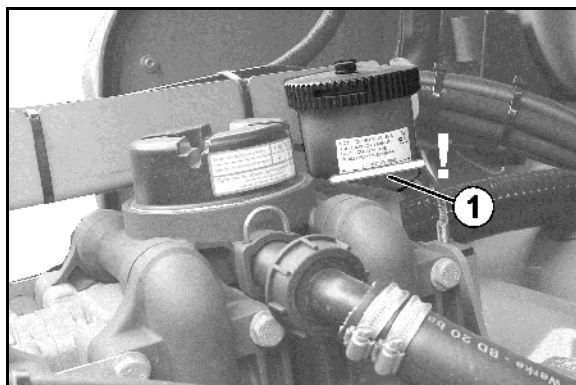

Fig. 196
2. Blow out the evaporator (Fig. 196/2) and warm water radiator (Fig. 196/3) with compressed air (maximum 5 bar).
3. Renew damaged seals (Fig. 196/1) under the cover.